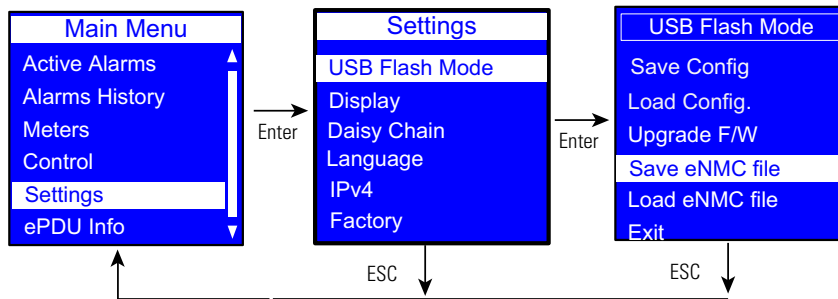
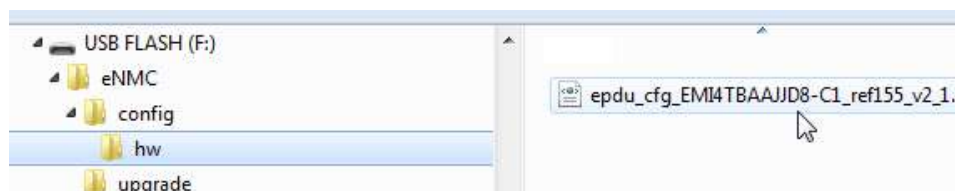

Figure 72. Example Save eNMC File
Figure 73. Verify HW File at USB Root
4. Select Save eNMC file to save the ePDU hardware configuration file to the USB drive (see Figure 72). The file will save to the eNMC/config/hw path at the USB drive root directory (see Figure 73).